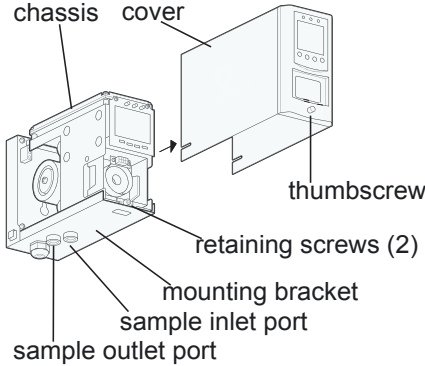

Figure 2: Removing the Midas cover
3. Remove the cover by pulling it forward off the chassis (See Figure 2).